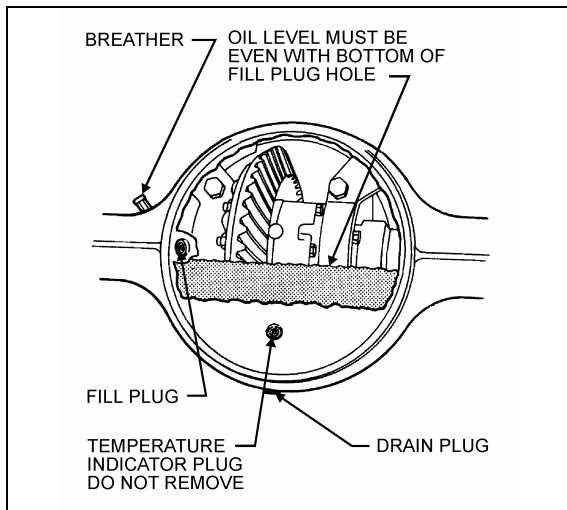

FIGURE 4: DIFFERENTIAL HOUSING BOWL
In extreme conditions, or for better performance, fill with synthetic gear oil. Check oil level and add (if necessary) every 25,000 miles (40 000 km) or according to the fleet maintenance interval, whichever comes first (Fig. 4).
3. Clean the area around the fill plug. Remove the fill plug from the differential axle housing bowl (Fig. 4).